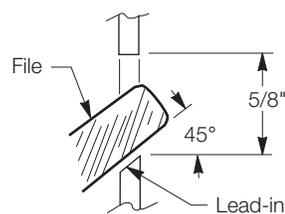

Fig. 6 **SIDE SECTION**
Step 19 - A 45 degree slope must be filed into the squared end of the slot as a "lead-in" for the latch. File the lead-in but do not increase the slot size. (See Fig. 6)